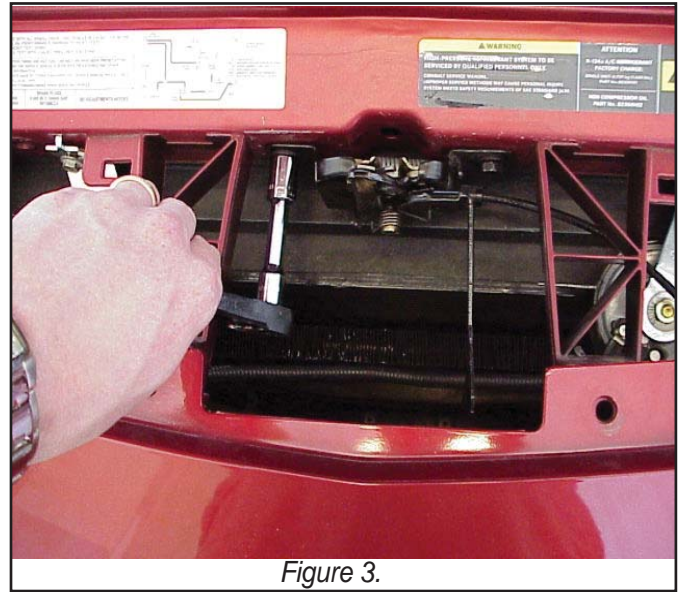

Figure 3.
3. Remove and retain both bolts that secure hood latch. Move hood latch out of the way where it will not interfere with speaker bracket installation. See figure 3.